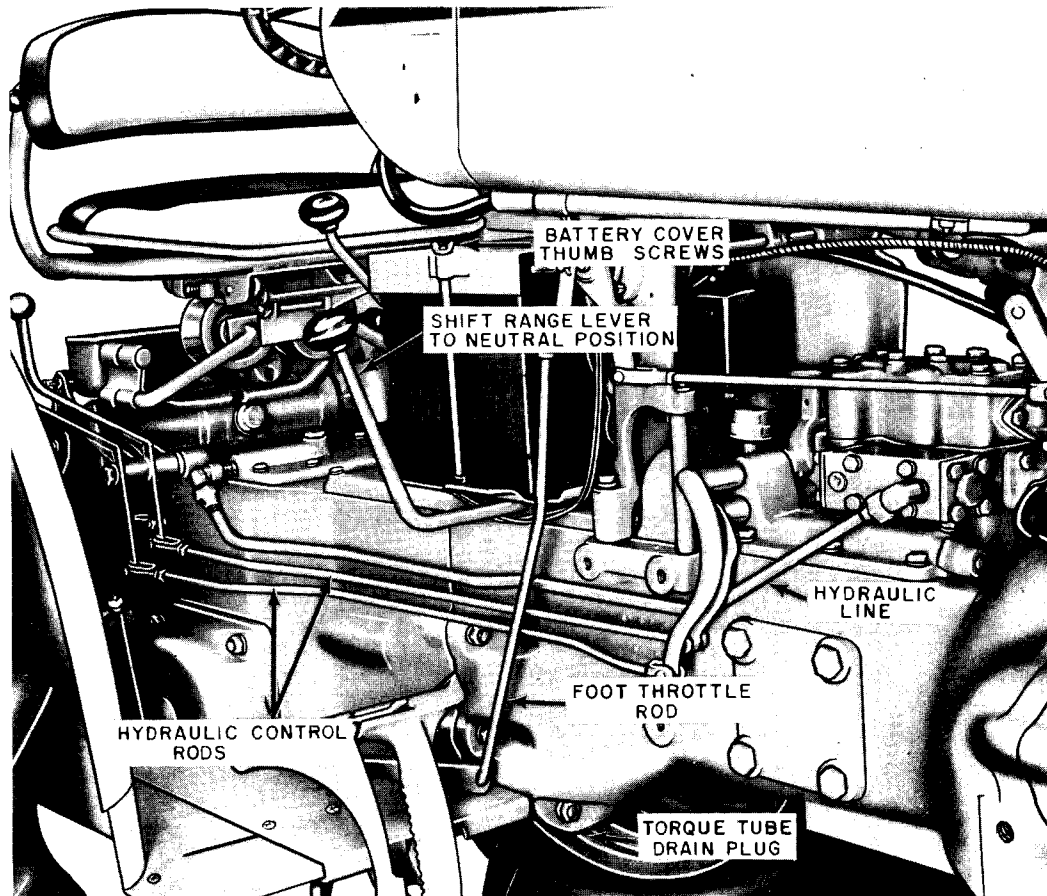
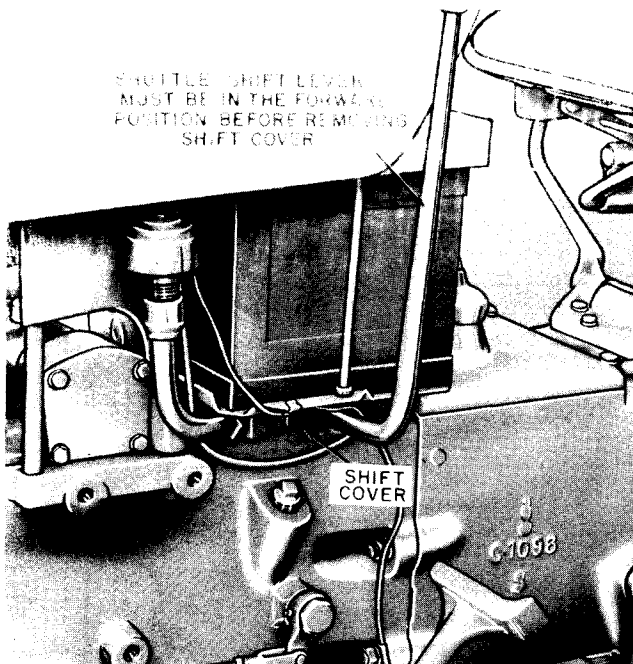

Fig. A-8 Items To Be Removed When Splitting Tractor At Rear Of Torque Tube
Fig. A-11 Shuttle Shift Lever Position
2. Drain torque tube and transmission case. The transmission will not have to be drained if the shuttle, dual or triple range unit is not going to be removed from the transmission case. Fig. A-8.
3. Remove the hydraulic control rod or rods. Fig. A-8.
4. Remove hydraulic line leading from interlock to rockshaft housing. Fig. A-8.
5. Disconnect foot throttle rod at foot pedal. Fig. A-8.
7. If tractor is equipped with dual range or triple range transmission, shift to neutral position. Also, where shuttle is used shift shuttle lever forward or to the reverse position. This is to aid in removal of the cover. Fig. A-8 and Fig. A-11.
and remove cover. Fig. A-8.